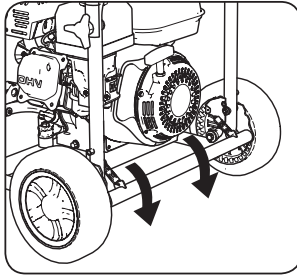

Fig 7
- Lock the Transportation Wheels using the wheel brake. **(Fig. 7)**